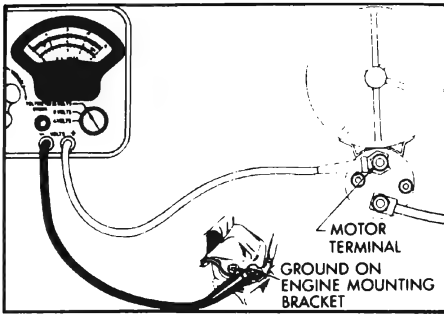

Figure 10-28—Cranking Voltage Test Connections
3. Connect voltmeter positive (+) lead to the motor terminal on solenoid switch; connect voltmeter negative (-) lead to ground on starter. See Figure 10-28.